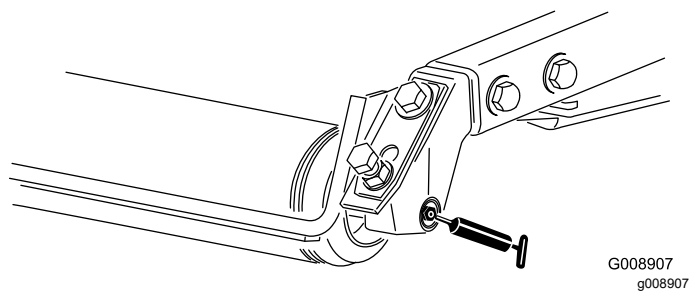

Figure 37
- Rear-roller bearings (2 per cutting unit)—Figure 37